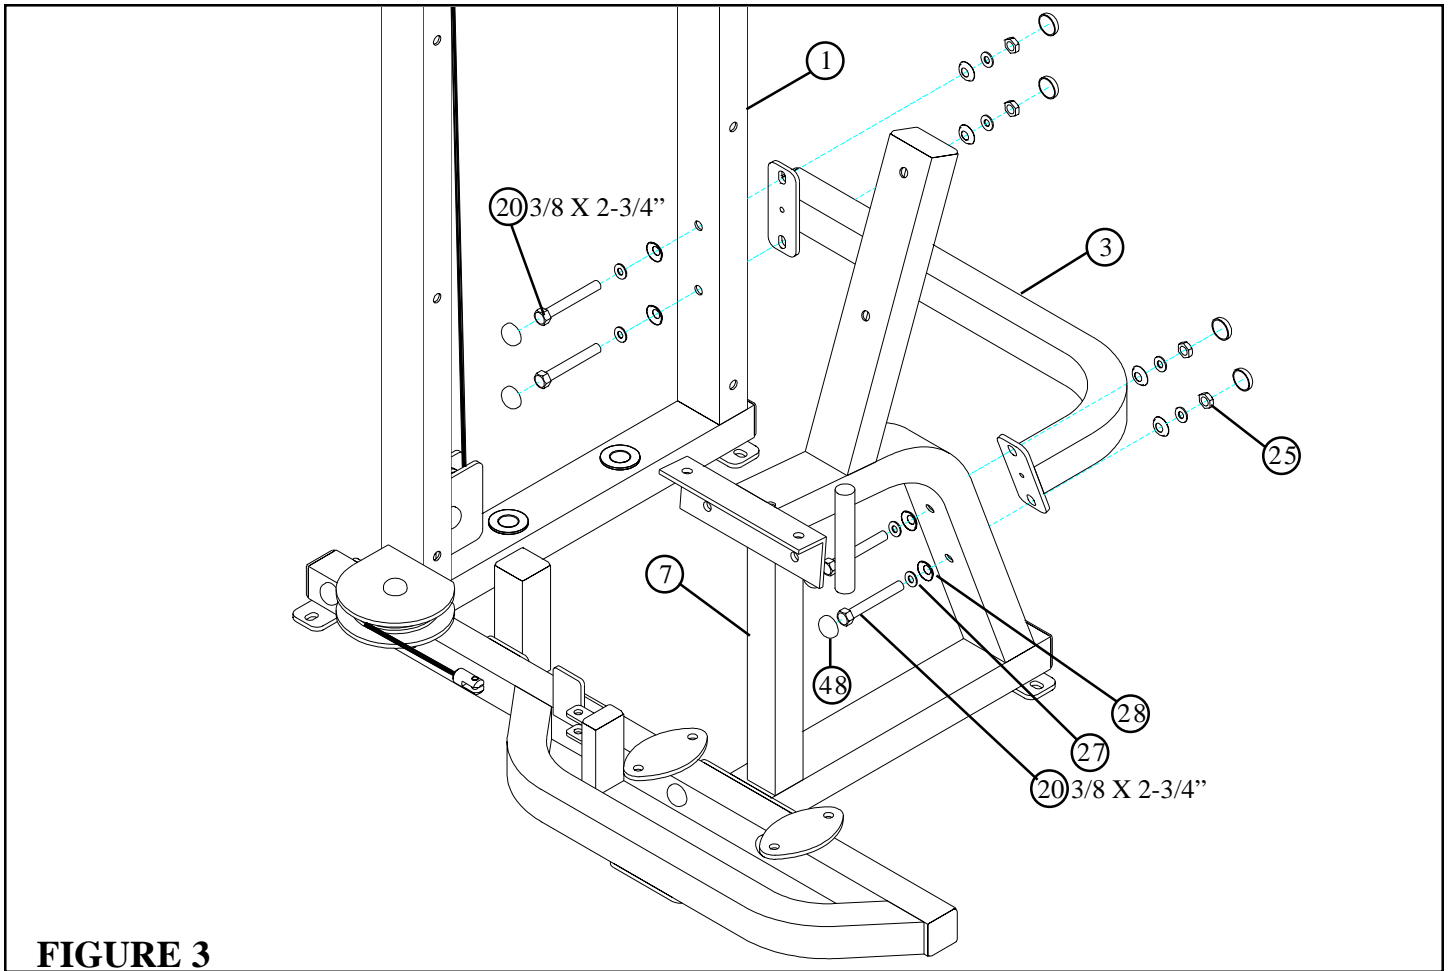

FIGURE 3
- **LOOSELY** assemble the CROSS BRACE (3) to the SEAT FRAME (7) and the TOWER (1) using eight RH CAPS (48), four 3/8 X 2-3/4" BOLTS (20), eight 3/8" SAE WASHERS (27), eight 3/8" RH WASHERS (28) and four 3/8" LOW HEIGHT LOCK NUTS (25) as shown in FIGURE 3.
- **Securely tighten all loose frame connections made to this point, then proceed to snap RH CAPS (48) over the RH WASHERS (28) on all tightened connections.**